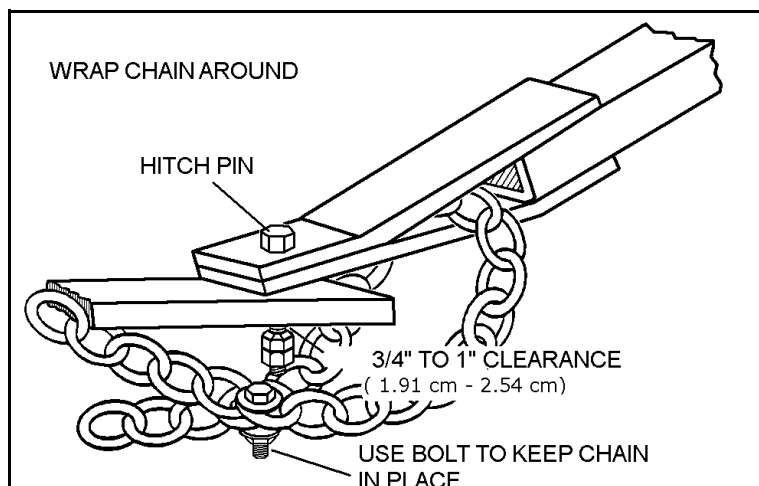

Figure 4.2 Position and Secure Hitch Pin and Safety Chain
3. Position and secure hitch pin and safety chain (See Figure 4.2). Place safety chain through clevis welded to auger hitch tube and bolt together before attaching to tractor.